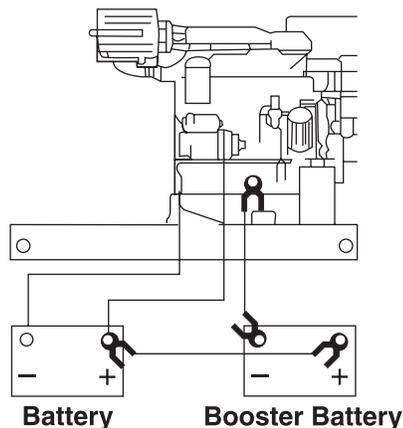

Figure 4: Booster Battery Connections
4. Then, connect negative (-) terminal of booster battery to ground on the engine block (see Figure 4).